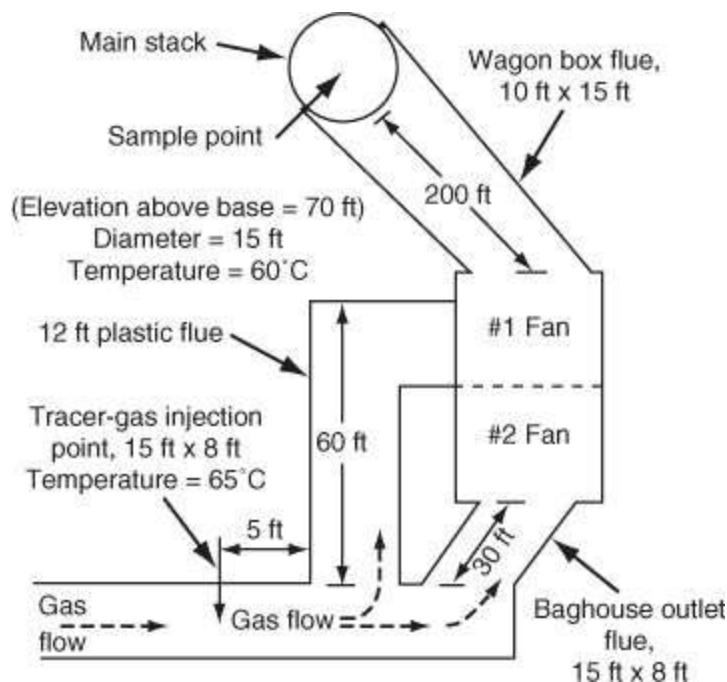

Figure P7.1.40
****7.1.40.** Measurement of flue gas flow rates is difficult by traditional techniques for various reasons. Tracer gas flow measurements using sulfur hexafluoride (SF₆) have proved to be more accurate. Figure P7.1.40 shows the stack arrangement and the injection and sampling points for the SF₆. Here are the data for one experiment: